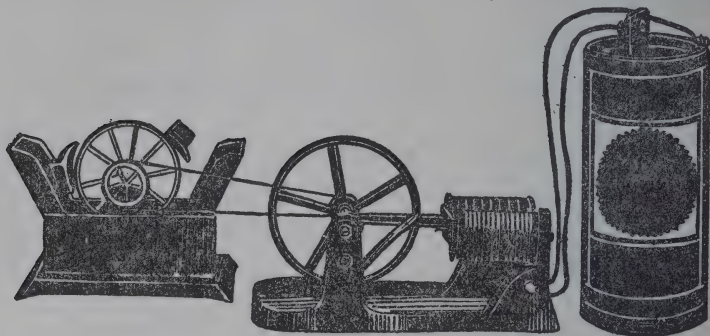
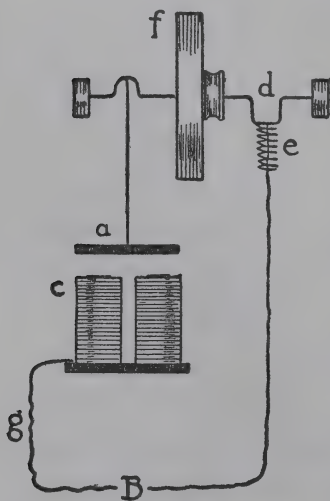

Fig. 27
Fig. 28
9. *The Electric Engine* (Fig. 27).—This toy, with one dry battery cell, develops power enough to run several other toy machines. The diagram in Fig. 28 will make its plan of operation plain. *B* is the battery cell, *c* the electro-magnets, *a* an armature of iron. By a rod this armature is connected with a crank on